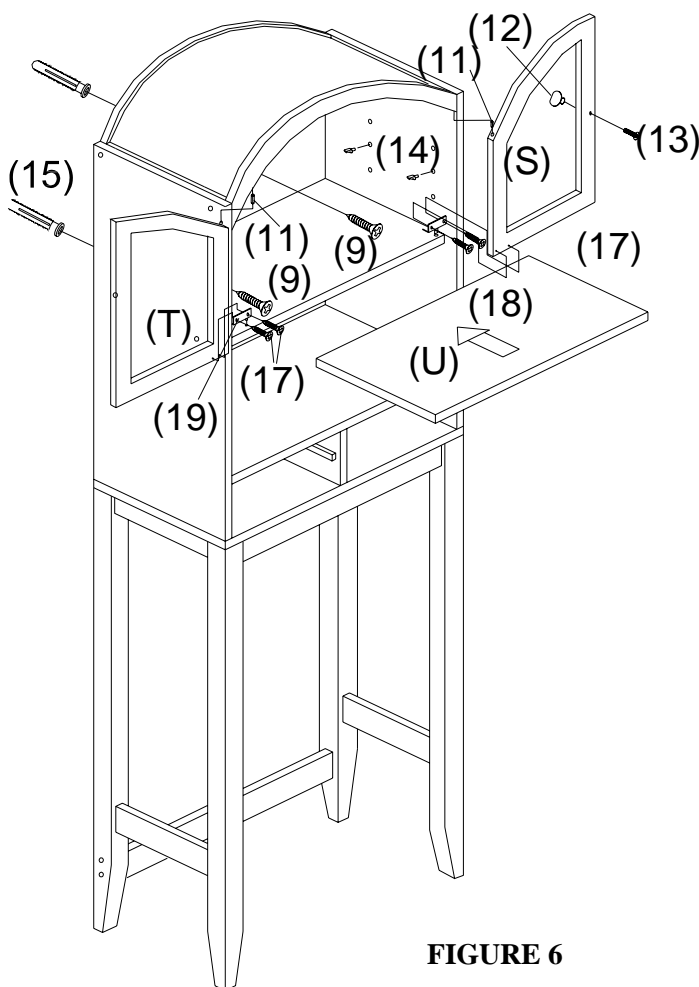

FIGURE 6
8. INSERT METAL HINGES (11) INTO PREDRILLED HOLES ON TOP EDGES OF LEFT AND RIGHT DOORS (S, T) AND FIT INTO CORRESPONDING HOLES ON UNDERSIDE OF TOP PANEL (A). INSERT LEFT AND RIGHT METAL HINGES (18, 19) INTO PREDRILLED HOLES ON UPSIDE OF UPPER FIXED SHELF (D). INSERT SMALL FLAT HEAD WOOD SCREWS (Ø3X10mm) (17) THROUGH LEFT AND RIGHT METAL HINGES (18, 19) AND TIGHTEN INTO PREDRILLED HOLES ON BACK OF LEFT AND RIGHT DOORS (S, T). INSERT SMALL MACHINE SCREWS (Ø5/32"X5/8") (13) THROUGH PREDRILLED HOLES ON LEFT AND RIGHT DOORS (S, T) AND TIGHTEN INTO METAL KNOBS (12). (AS SHOWN IN FIGURE 6)
9. FOR SAFETY AND STABILITY, PLACE THE UNIT AGAINST WALL, DRILL TWO 1/4" DIAMETER HOLES IN WALL, THE DISTANCE BETWEEN TWO HOLES SHOULD MATCH TO THE PREDRILLED HOLES ON UPPER BACK PANEL (P). FIT PLASTIC ANCHORS (15) INTO THE HOLES ON WALL. USE SCREWDRIVER TO SCREW X-LARGE FLAT HEAD WOOD SCREWS (Ø4X38mm) (9) THROUGH PREDRILLED HOLES ON UPPER BACK PANEL (P) INTO PLASTIC ANCHORS (15). (AS SHOWN IN FIGURE 6).
10. FIT SHELF SUPPORTS (14) INTO PREDRILLED HOLES ON UPPER LEFT AND RIGHT SIDE PANELS (B, C). PUT ADJUSTABLE SHELF (U) ON EACH SHELF SUPPORTS (14). (AS SHOWN IN FIGURE 6)